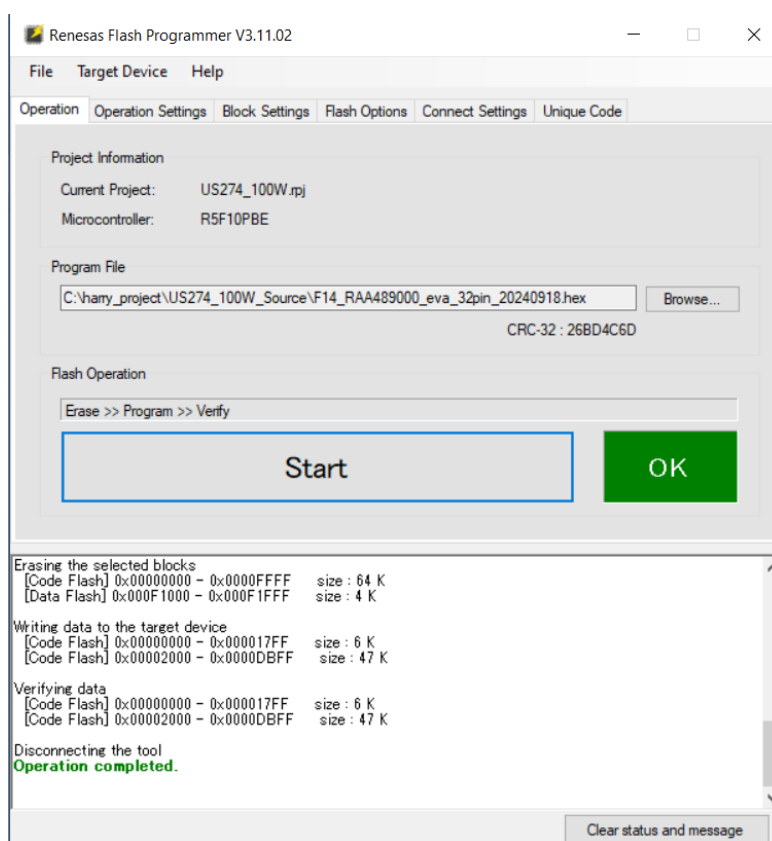

Figure 10. Program Success Window
12. If the program is successfully completed, the green OK indicator displays (see Figure 10).